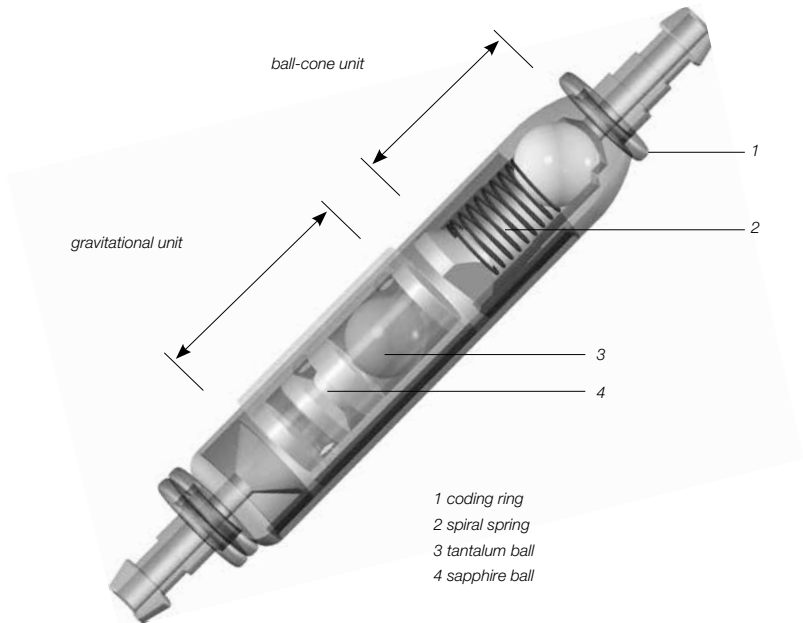

Fig. 1: Schematic cross section of the *paediGAV*
Fig. 1 shows a schematic cross section of the *paediGAV*. It consists of a sturdy titanium casing, which houses, in its proximal section, a well-ried ball-cone unit. A spiral spring (2) maintains the opening pressure of the ball-cone unit. The gravitational unit in the distal part consists of a tantalum ball (3), which defines the opening pressure of this valve, and a sapphire ball (4), which ensures its precise closure.